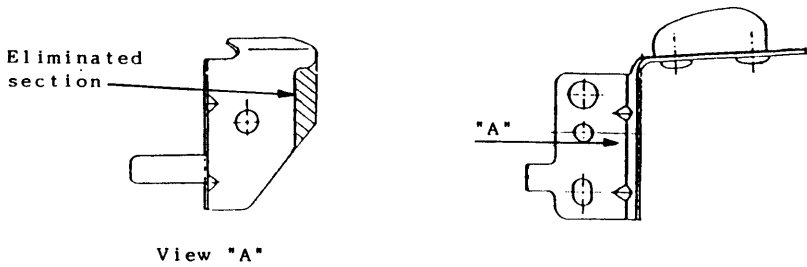

Fig. 2: Leaf spring
- B. The leaf spring may come in contact with the paper sensing arm and restrict its movement. To prevent this, the shaded part of the spring (figure 2) has been eliminated.